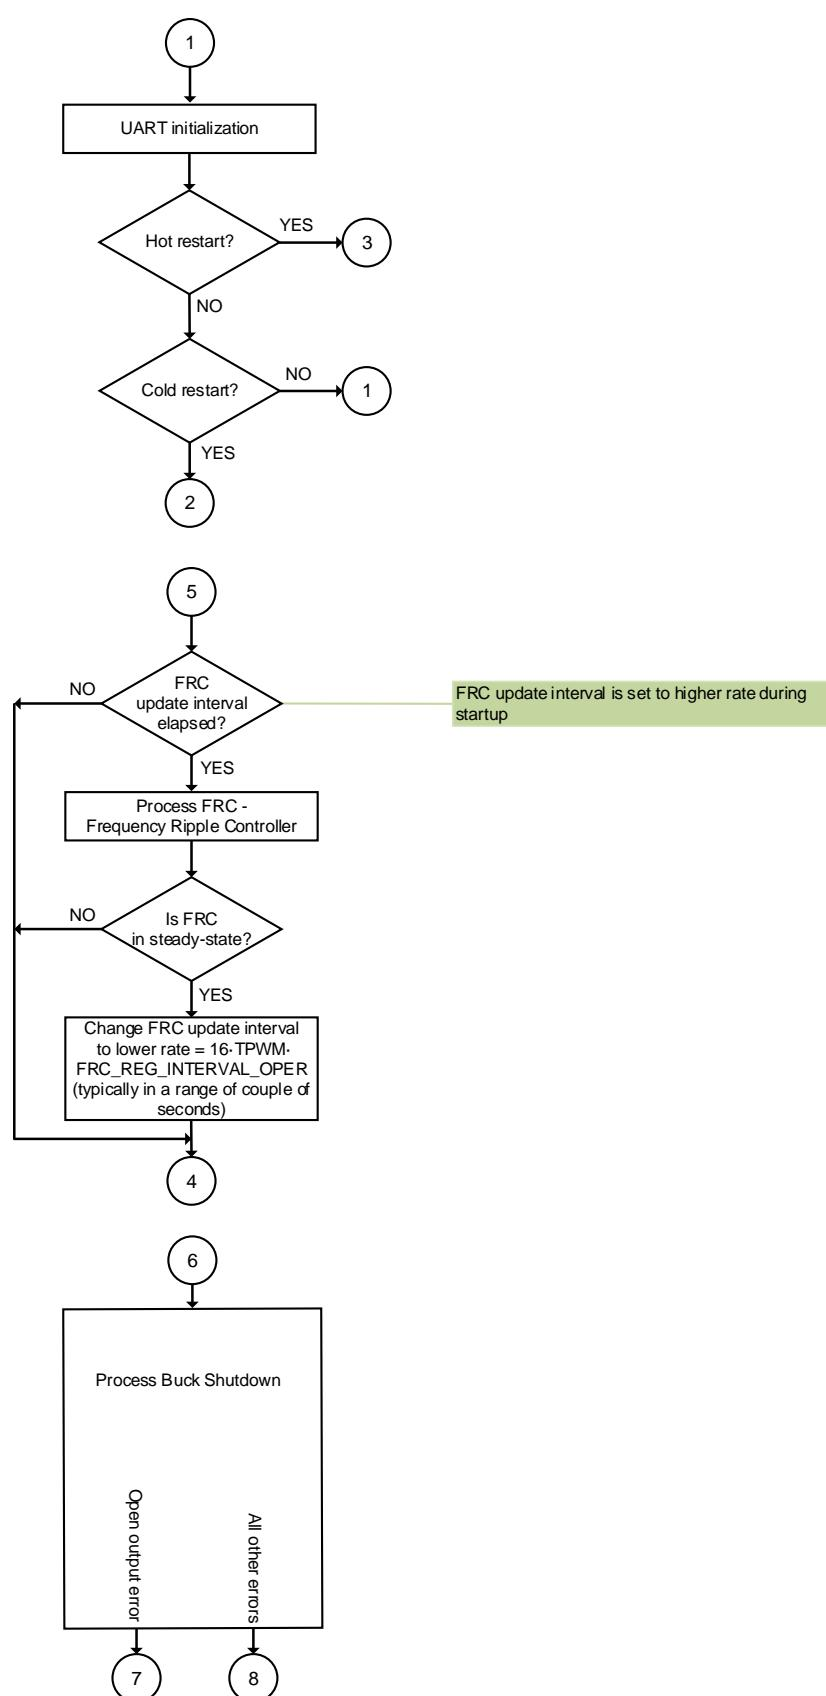
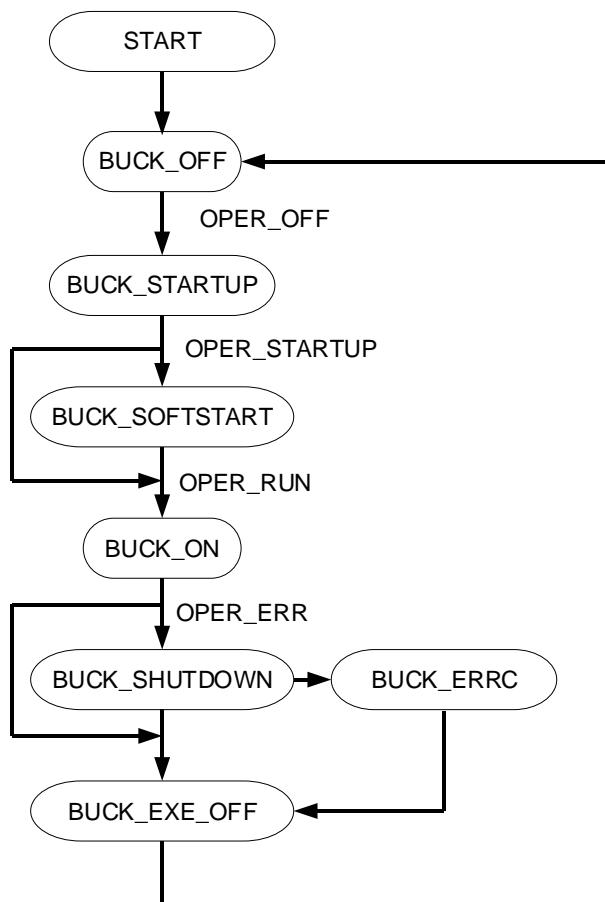

Figure 4. Device Operating Flowchart
Figure 5. Buck State Machine
The ILD2111 is a high-performance digital microcontroller-based DC/DC buck LED controller designed as a constant current source with hysteretic output current regulation. The controller typically uses a floating buck topology operating in a Continuous Conduction Mode (CCM). In order to reduce switching losses and increase efficiency, as well as to control the switching frequency over a wide variety of external component values, input voltage and load variations, a frequency ripple control is introduced. Both internal and external temperature measurements are implemented and accompanied with an intelligent temperature protection algorithm with two threshold values. The controller utilizes a variety of protection features, including overpower, open and short load conditions. The ILD2111 is a dimmable device controlled by an external PWM signal. The device can be parameterized by means of a single pin UART interface at the REF/SC pin (see Section 3.9). A complete top-level device operation process, including protection and error handling, is shown in Figure 4. Table 3-1 shows device operating statuses, buck statuses associated with the buck state machine, as well as error and associated error codes. The buck state machine diagram is shown in Figure 5.
1) See buck state machine in **Figure 5**.